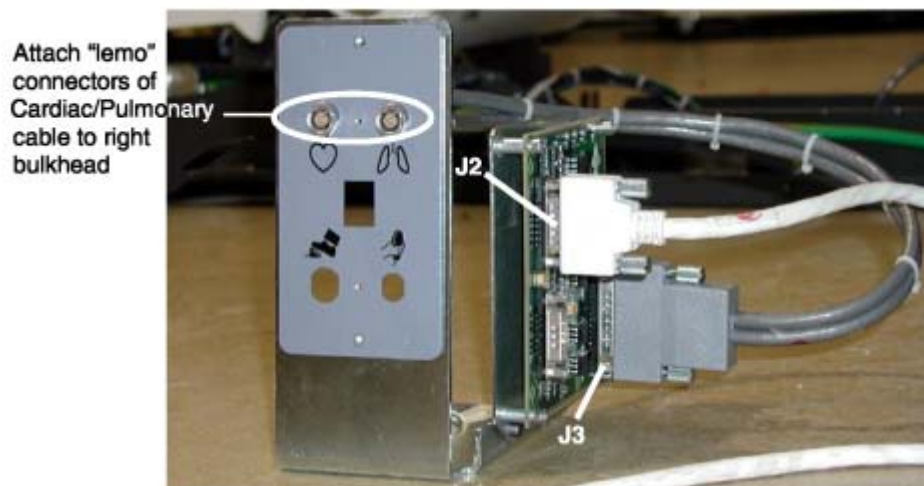

FIGURE 1-5 RIGHT SIDE MOUNTING BRACKET, WITH GO BOARD, BULKHEAD, AND CABLES
2. Attach the “Y” cable (PN# 5199332) connectors to the bulkhead cover. (See Figure 1-5).